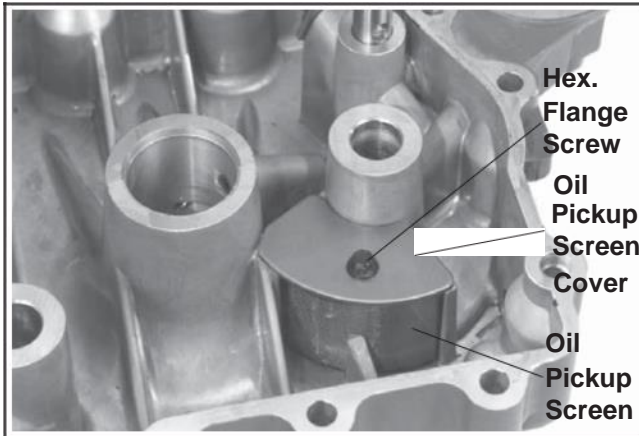

Figure 11-20. Installing Oil Pickup Components.
1. Install the oil pickup screen, screen cover and hex. flange screw. See Figure 11-20.